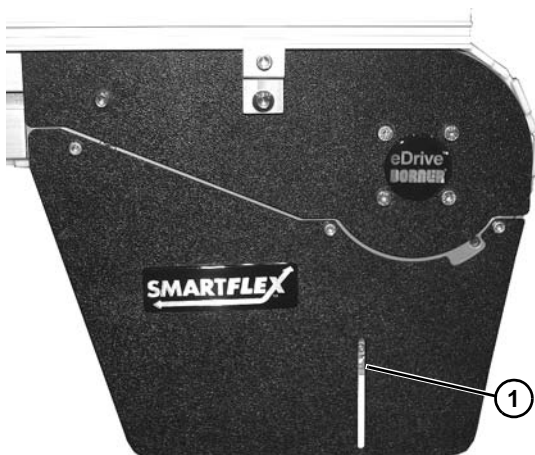

Figure 31
Before inserting belt rod to connect belt ends, be certain that the slack on belt is showing in slotted area (**Figure 31, item 1**) on convey or drive end.